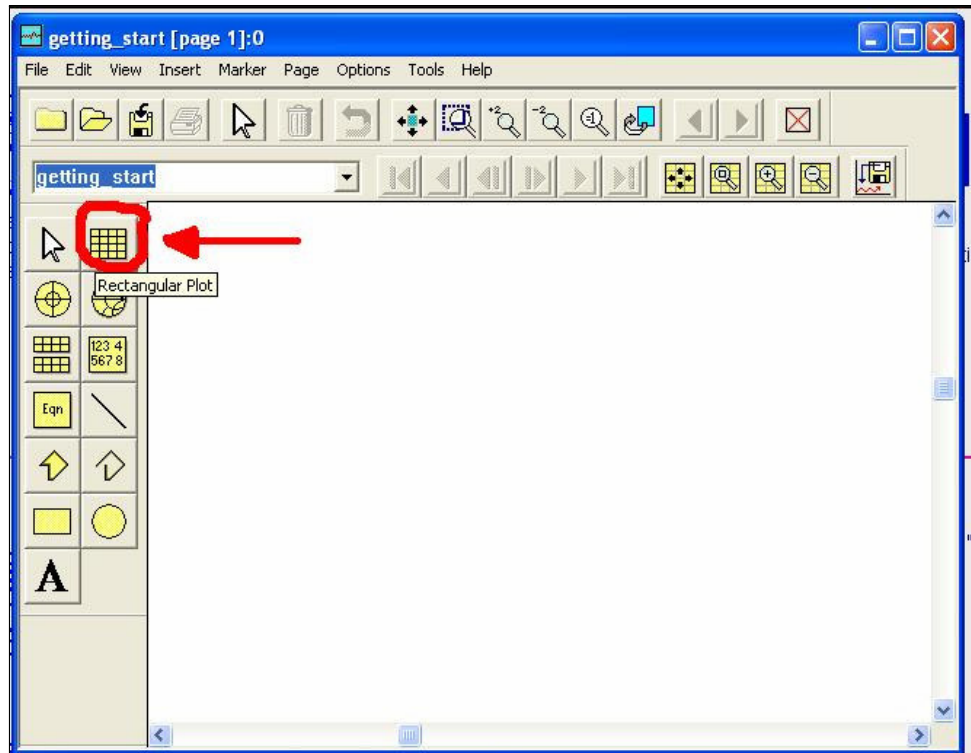

Figure 5 - 'Rectangular Plot' button.
6. After performing the simulation the results window open, choose the 'Rectangular Plot' button, as shown in Figure 5.